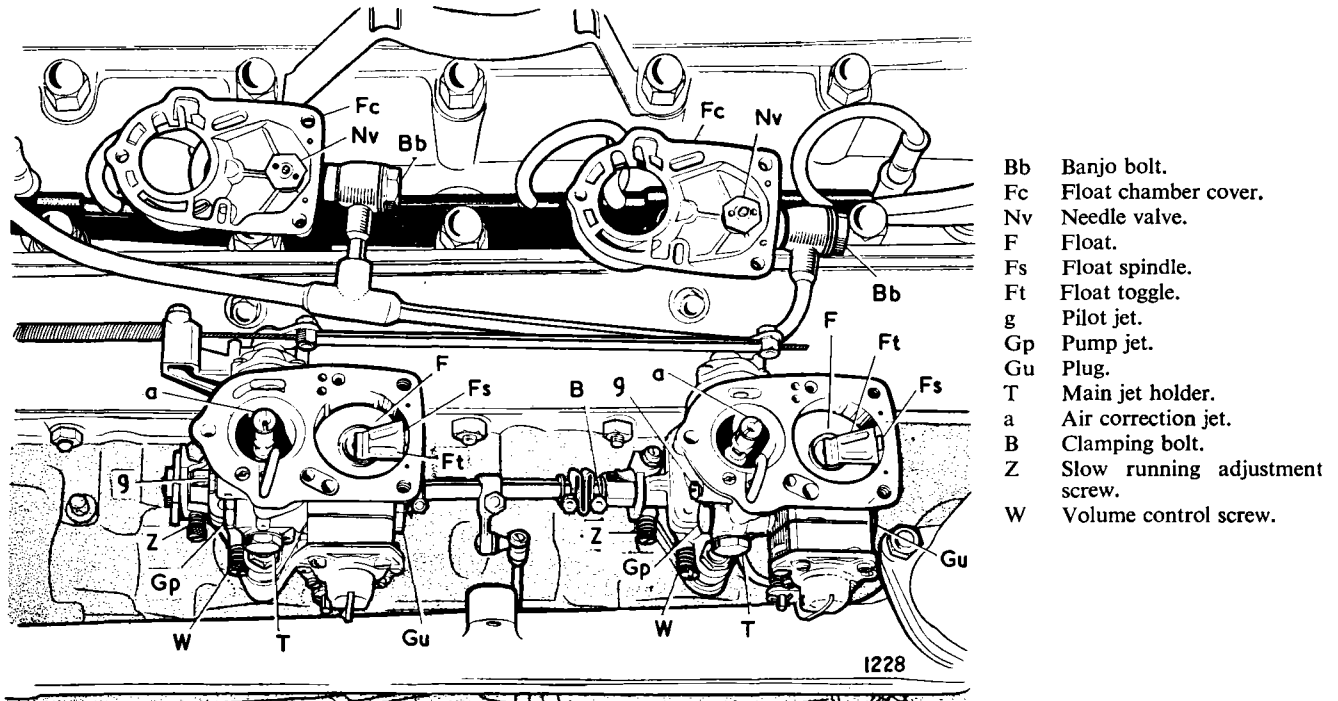

Fig. 5. View of the carburettors with float chamber covers removed.
Remove the air cleaner. Unscrew banjo bolts (Bb) (Fig. 5) and remove filter gauzes.
Each carburettor has two external adjustments, the slow-running adjustment screw (Z) (Fig. 5) and mixture volume control screw (W).
- (1) Switch off the engine and loosen the clamping bolt (B) on the flexible link between the carburetters. Each instrument should now be separately adjusted. Starting with the front carburettor :—
- (2) Unscrew the screw (Z), and ensure the throttle is closed by manual pressure on the slow running screw. Insert a .002" feeler (or strip of paper) between screw (Z) and the casting stop, screw in (Z) until feeler or paper is lightly nipped. Remove feeler and screw in (Z) one further complete turn from this point.
- (3) Gently screw the volume control screw (W) clockwise until light contact is made with the casting seat, then unscrew three-quarters of a turn.